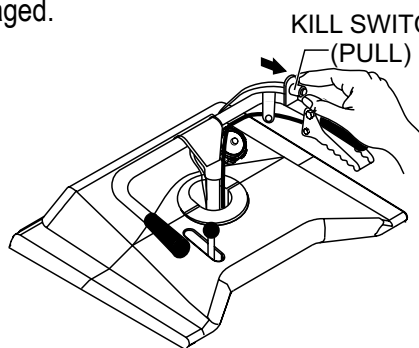

Figure 9. Kill Switch OFF
1. Before attempting to start the power buggy, make sure that the **safety kill switch** (Figure 9) is not pushed in. The power buggy will not start with the kill switch engaged.